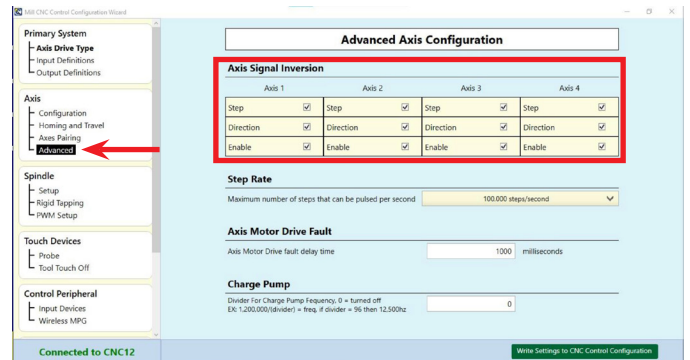

FIGURE 18—Mill stepper motor parameters: X-axis is Axis 1, Y-axis is Axis 2, Z-axis is Axis 3, and A-axis is Axis 4.
- Axis 1 (X) pin 2=Dir 1, pin 3=Step 1
- Axis 2 (Y) pin 4=Dir 2, pin 5=Step 2
- Axis 3 (Z) pin 6=Dir 3, pin 7=Step 3
- Axis 4 (A) pin 8=Dir 4, pin 9=Step 4
6. Next, set the Advanced Axis Configuration to allow Axis Signal Inversion (see Figure 18).